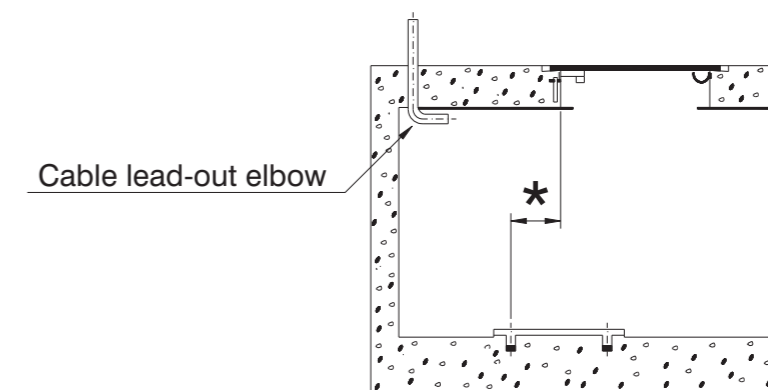

Fig. 1
3.2 Floor Frame (Fig. 1, 2 and 3)
Install a cable lead-out elbow and a floor frame on the floor over the pump pit. Attach a guide pipe holder securely to the floor frame with bolts. As the guide pipe must be installed vertically (with a tolerance of 1mm or less per 1m), carefully check the positional relationship between the floor frame location and the discharge elbow foundation. (See Fig. 1 *)